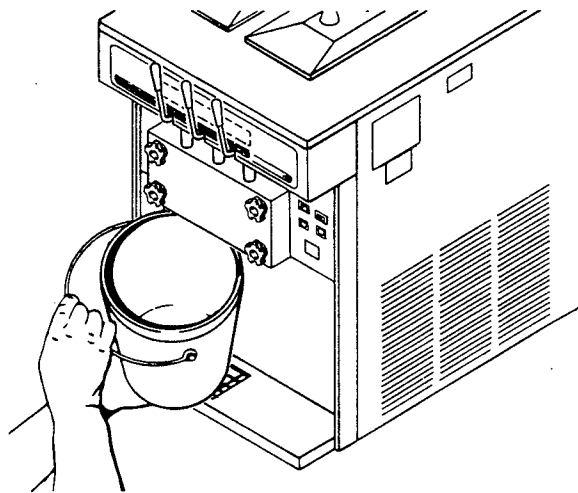

Figure 17. Draining Mix
- C. Drain the liquid mix by opening the spigot. A bucket or container should be placed under the spigot to catch the liquid mix (Fig. 17).